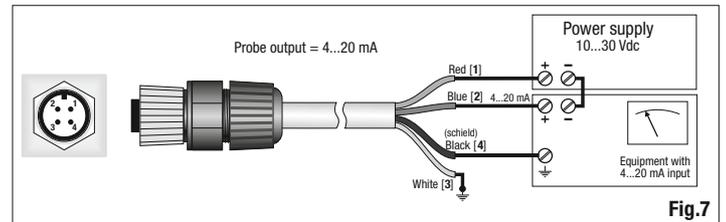

Fig.7
- LP PYRA 10 and LP PYRA 13 have be connected to an AC power supply and a multimeter as shown below (Figure 7), resistance load for reading the signal must be $\leq 500 \Omega$: